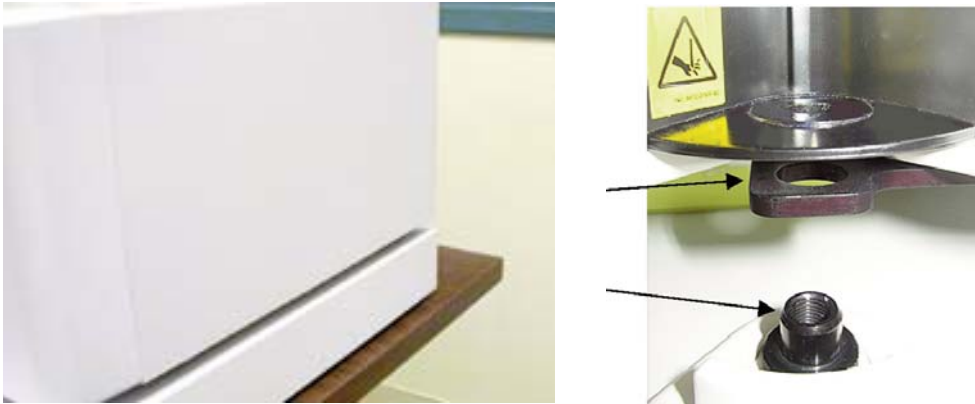

Fig. 11. Reader aligned on top of microplate platform.
4. Make sure that the power switch to the microplate platform is off, and connect the communications cable to the microplate platform's communication cable port. Attach a power cord to the power connector of the microplate platform, but do not plug it into an outlet until the array reader and microplate platform are aligned (Figure 11).
2. Carefully place the array reader onto the microplate platform so that the back edges and corners of both instruments are in alignment and the black alignment plate on the reader (top arrow, Figure 11) fits over the black knob on the top of the microplate platform (bottom arrow, Figure 11).